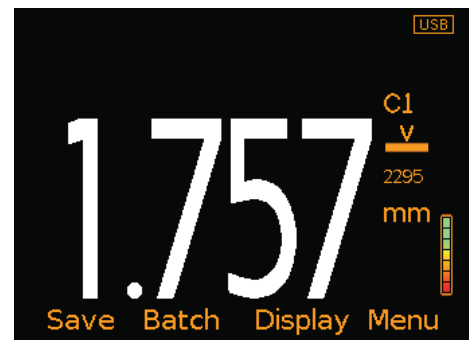

Figure 1
- 3 The display will show a value which is constantly updating (Figure 1).